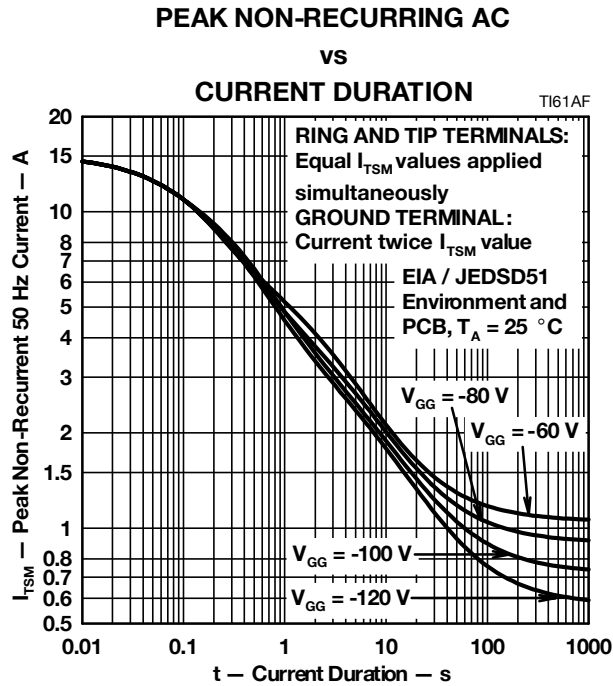

Figure 2. Non-Repetitive Peak On-State Current against Duration
3. Values for $V_{GG} = -48$ V. For values at other voltages, see Figure 2.